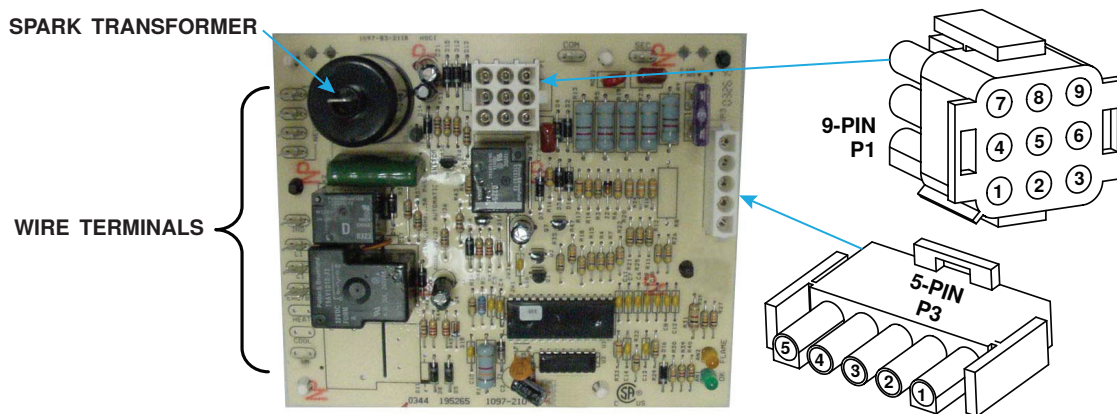

Figure 52. Replacement Circuit Board (PN 195265)
7. Position replacement circuit board so that spark transformer (see Figure 52) is located nearest to spark electrode on burner and snap circuit board into mounting holes.